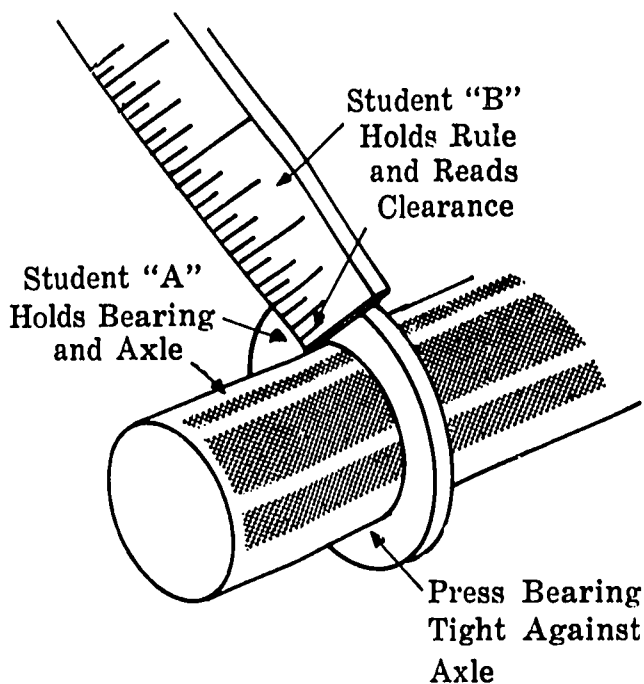

Fig. 10-2. Measuring Clearance between Bearing and Axle
- When a bearing is fitted onto an axle, the free space between them is the *clearance*. Two students are to measure the clearance for each bearing that will fit on the axle. See Fig. 10-2.